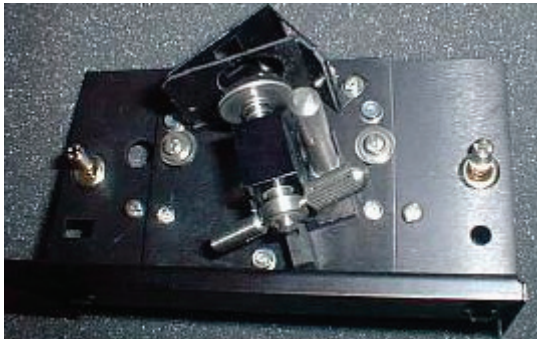

Figure 52 The plunger
The plunger plate is spring loaded, the stroke of the spring action is controlled by a metal ring, locked by a horizontal screw, as shown in Figure 52. The plunger plate is pulled back to allow insertion of the sample.
1. Unlock the vertical screw, as shown in Figure 52, and pull the plunger plate back.